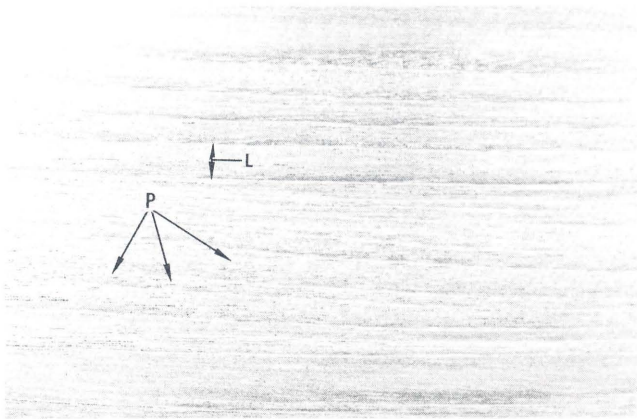

Figure 19 — American mahogany. Periodic lines, L, and pores, P.
24. Dry to the touch, orange brown, ribbon stripe figure common (Fig. 19) **American Mahogany**